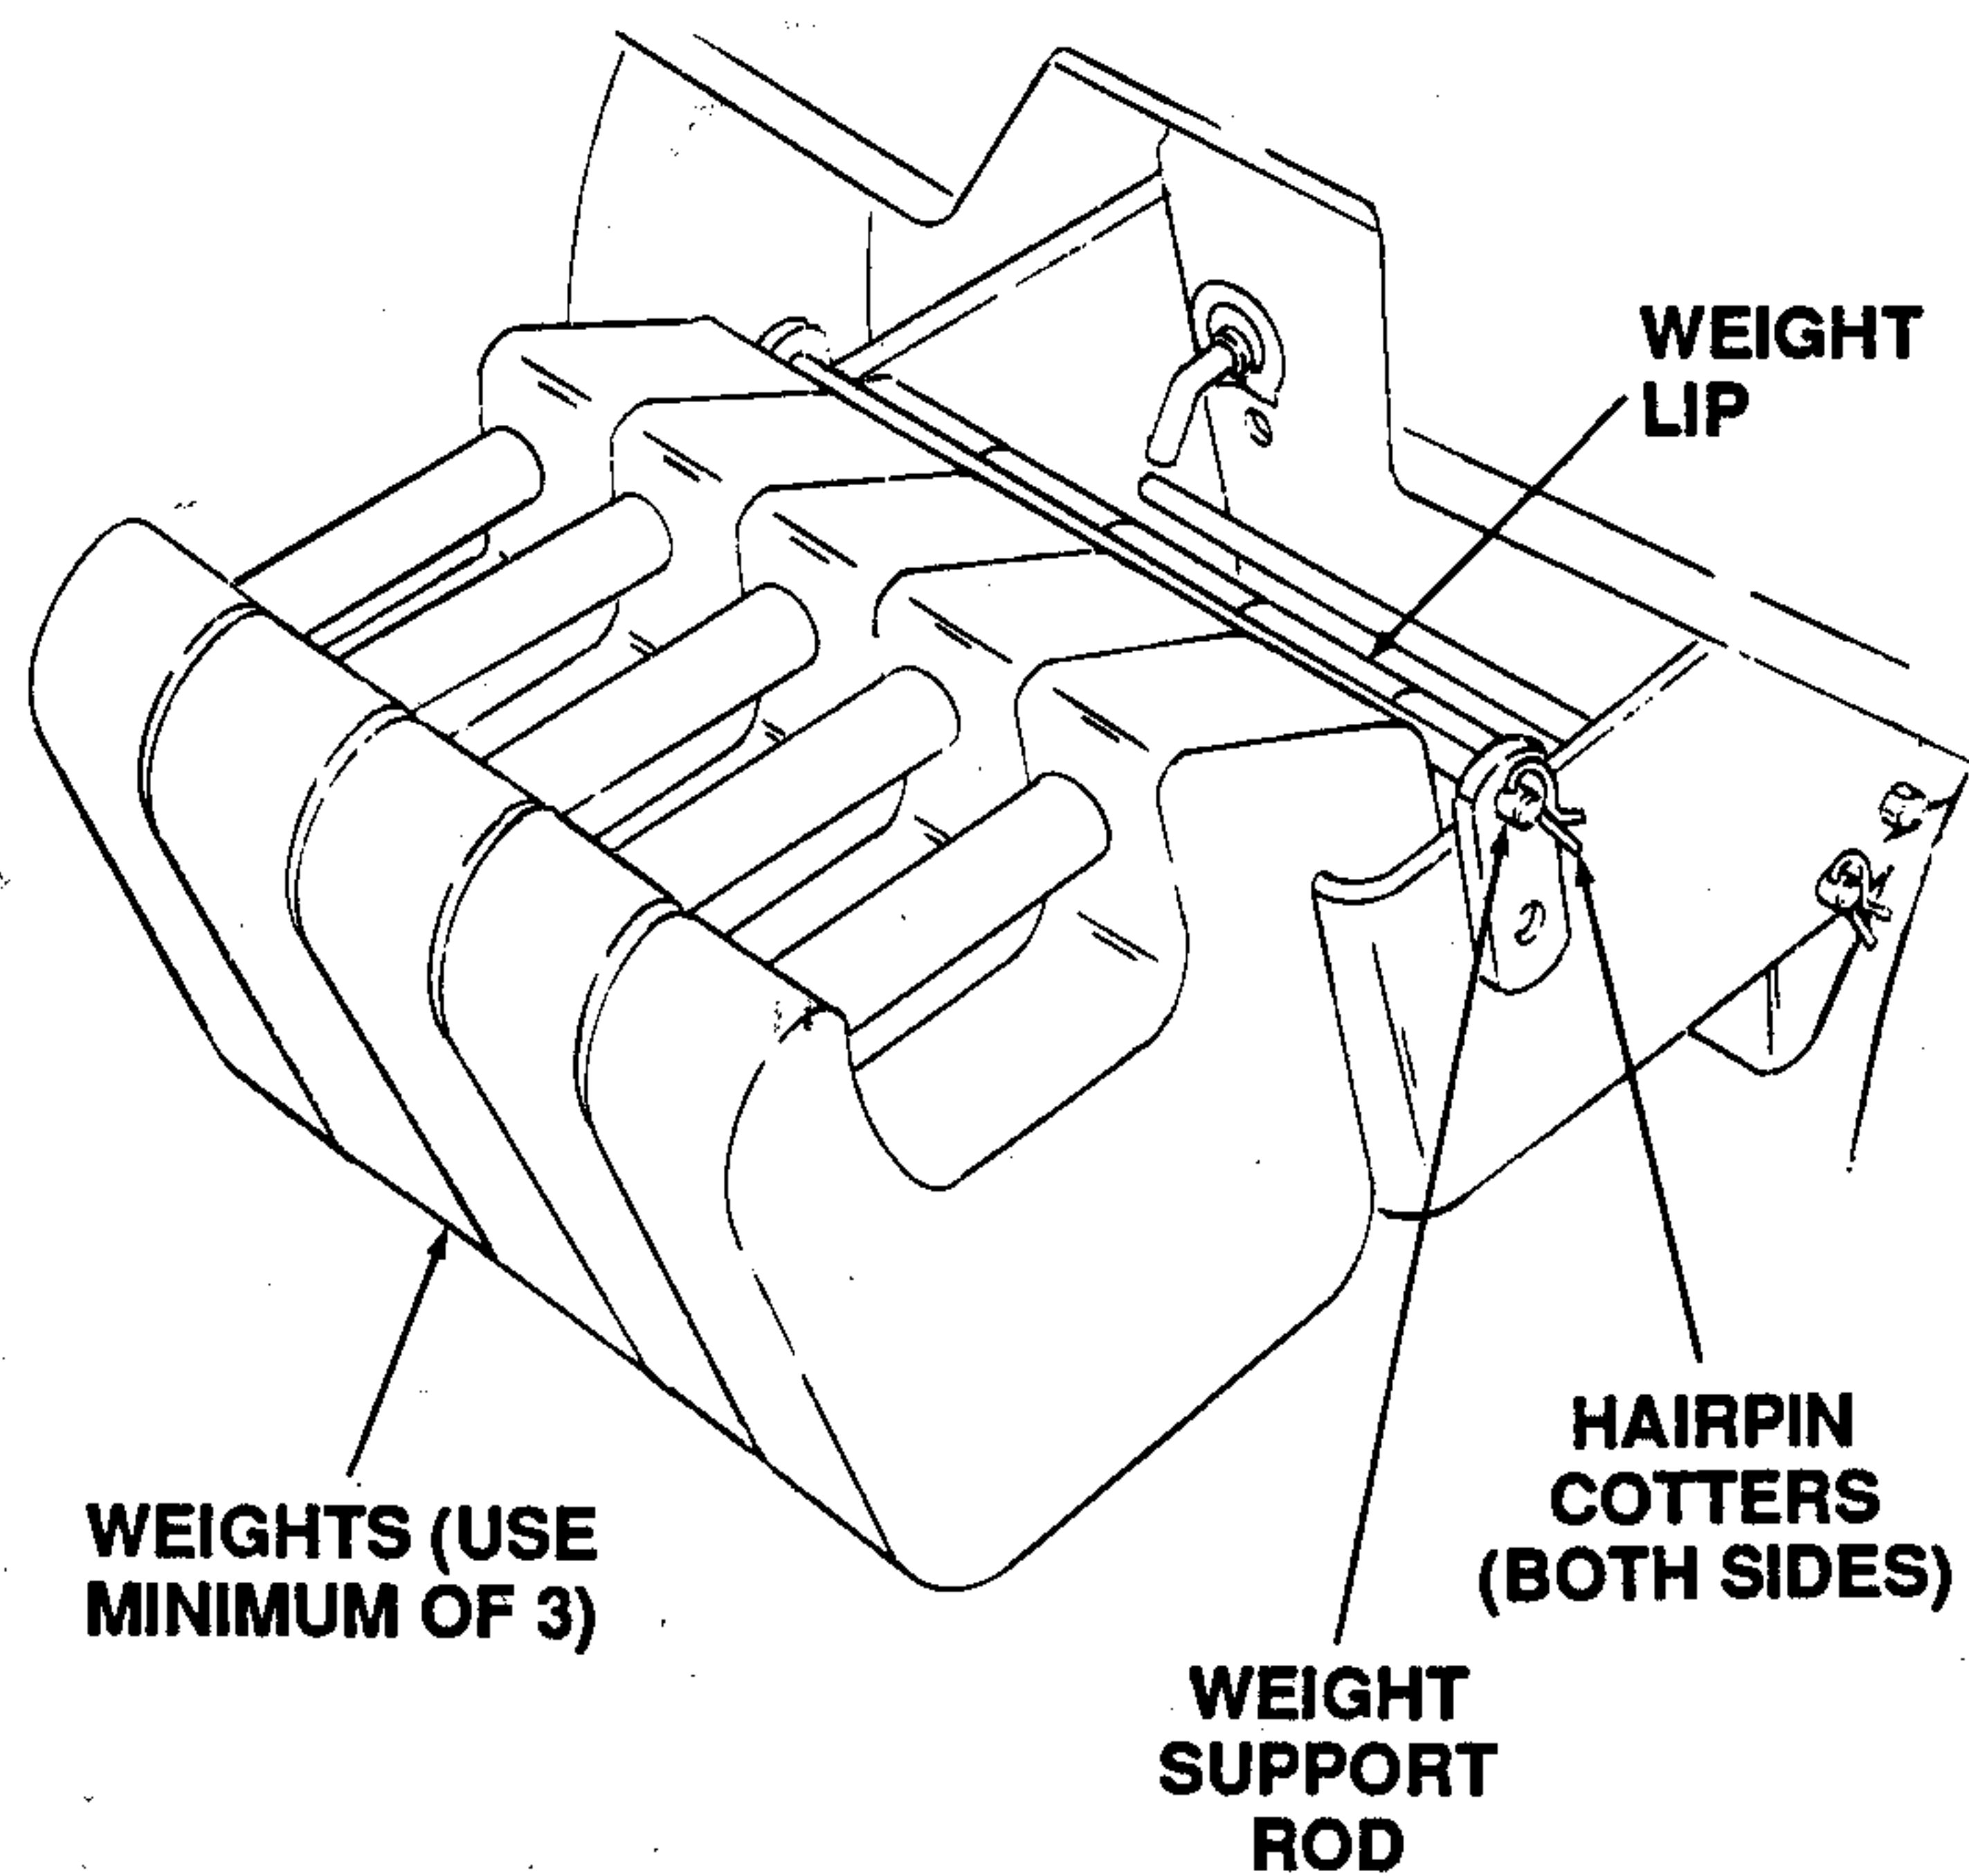

Figure 7
Refer to Figure 7 and proceed as follows:
- Place weights on rear weight bracket as shown in Figure 7.